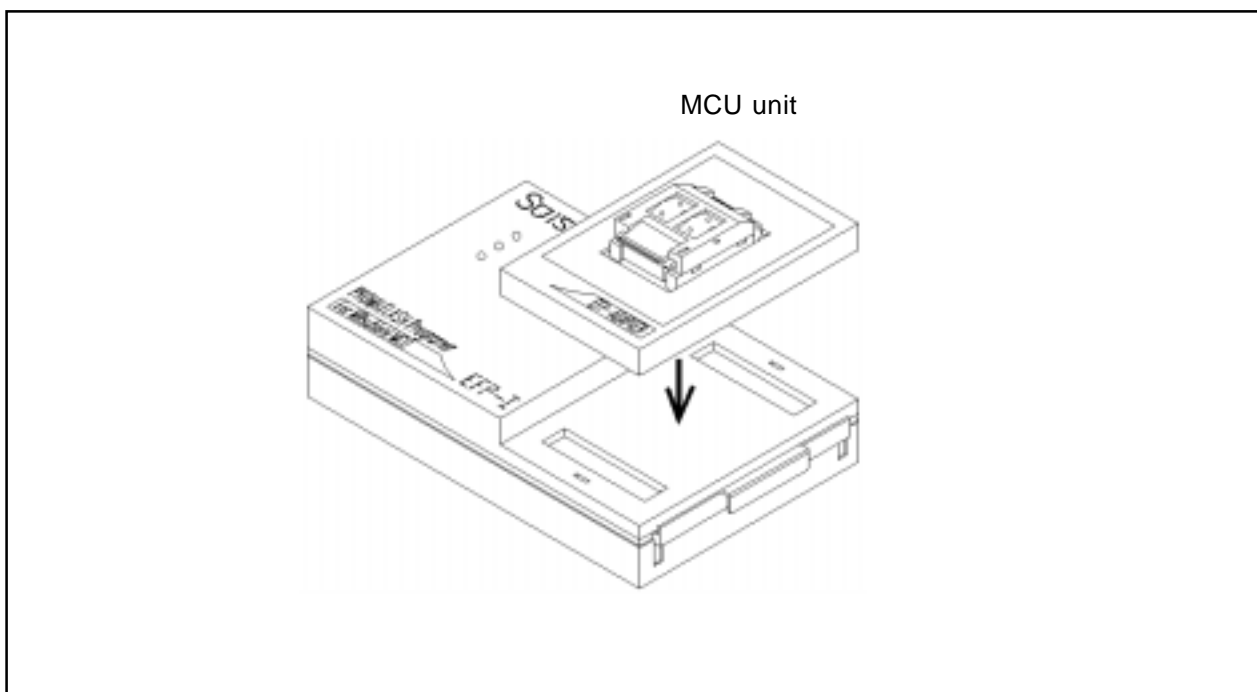

Fig. 3.1: MCU Unit Mounting Method
- (3) The method of mounting the MCU unit is shown in Fig. 3.1. Mount the MCU unit while being careful not to touch the IC socket. (Make sure orientation is correct.)